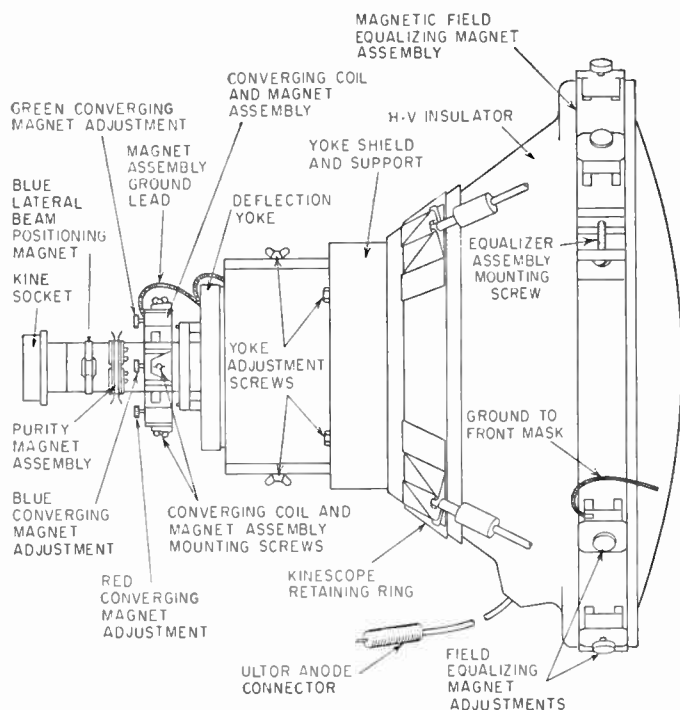

Fig. 2. Adjusters associated with a large-screen color tube. (RCA drawing)
Step 1—Installing New Color Tube. The large-screen color tube is installed with the components shown in Fig. 2. A magnetic-field-equalizing magnet assembly is clamped in place around the face of the tube. The yoke, converging coil and magnet assembly, purity-magnet assembly, and blue lateral beam-positioning magnets are assembled in the positions shown, following the manufacturer's instructions accurately.